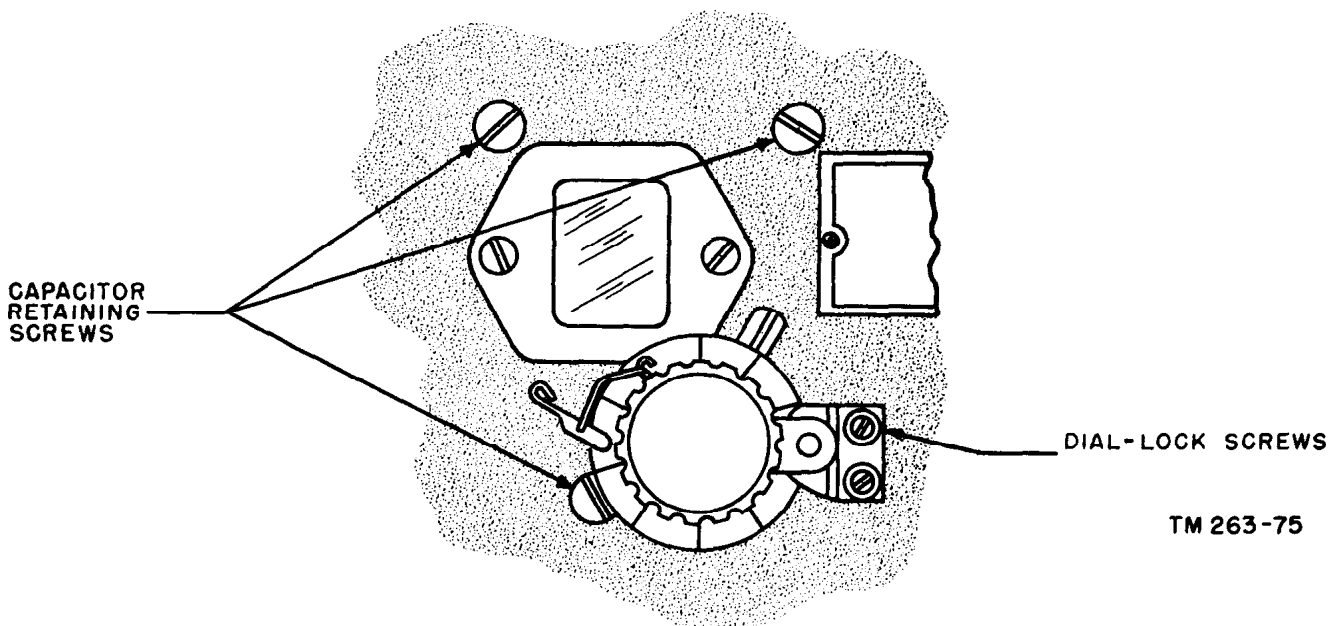

Figure 117. Transmitter capacitor and dial retaining screws.
a. Mesh C101 (0 setting on dial). Remove the dial-lock screws and dial knob (fig. 117) from the main tuning capacitor shaft on the front panel of the transmitter. On some transmitter models, the dial knob is held to the shaft by a small setscrew which can be loosened with the larger Bristo wrench No. 6 contained in Box BX-53.
e. Following this step, remove the three capacitor retaining screws on the front panel of the transmitter seen in figure 117.